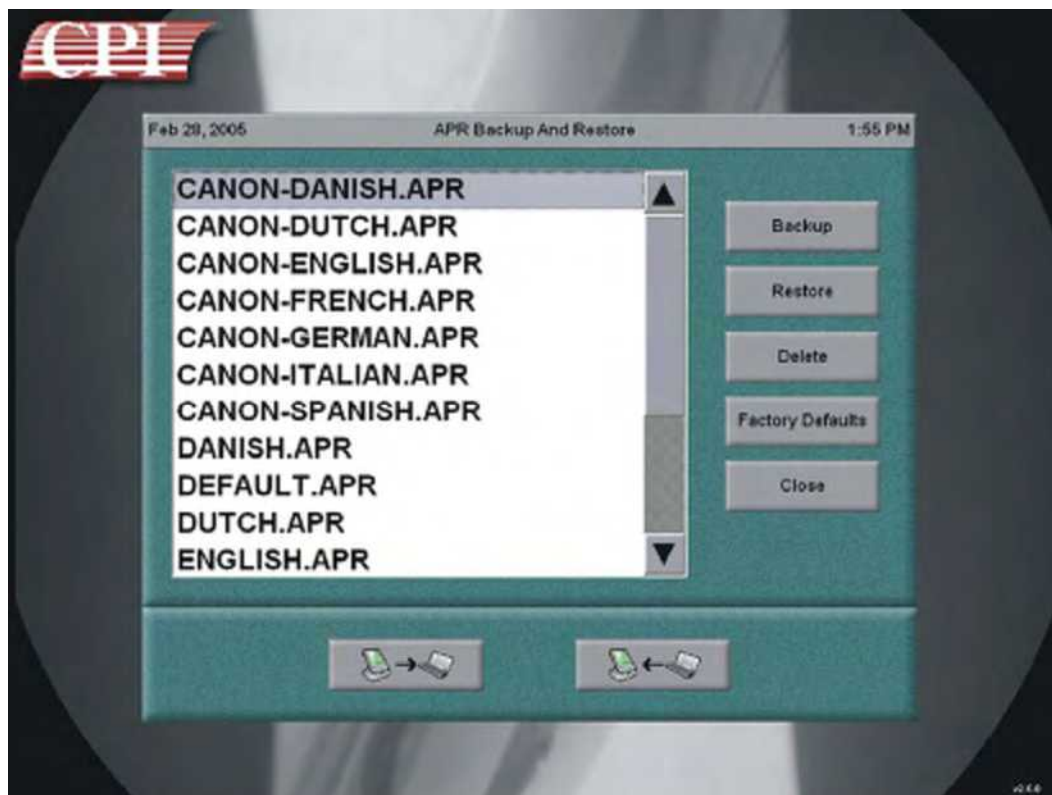

Figure 3C-27: APR back-up and restore window
1.	From the system utilities menu, press APR Backup / Restore . A pop-up window (figure 3C-27) will display showing the available backup files and the factory-default APR files in various languages. Pressing Close will exit the backup and restore menu.